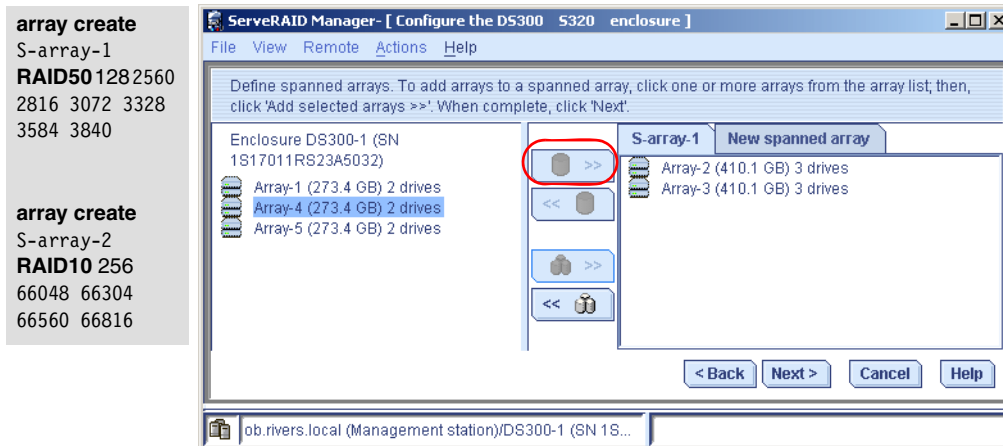

Figure 4-69 S-array-1 with base arrays
14. The window shown in Figure 4-69 is used to create spanned arrays. Select the base arrays which will be used to build a spanned array. Select **Array-2** and **Array-3** and assign them to the **New spanned array** tab. The **New spanned array** tab will be renamed to **Spanned-array-1** and a new **New spanned array** tab is created. Create another spanned array with Array-4 and Array-5. See Figure 4-69. Click **Next**.